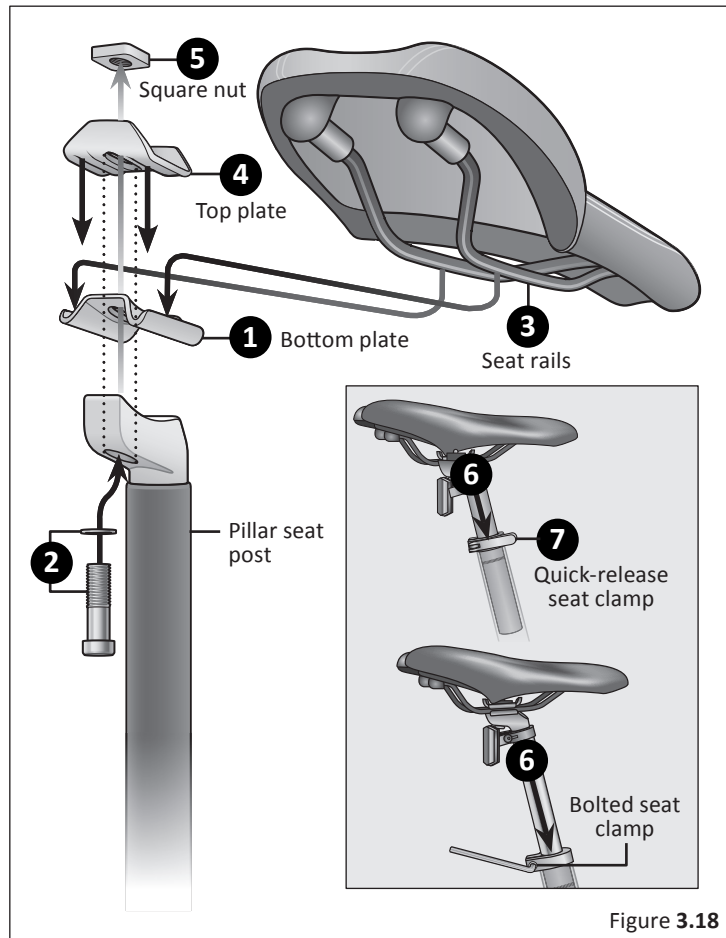

Figure 3.18
- 1 Place the bottom plate on the pillar seat post. Be sure the holes in the bottom plate and the holes in the seat post are aligned. Figure 3.18